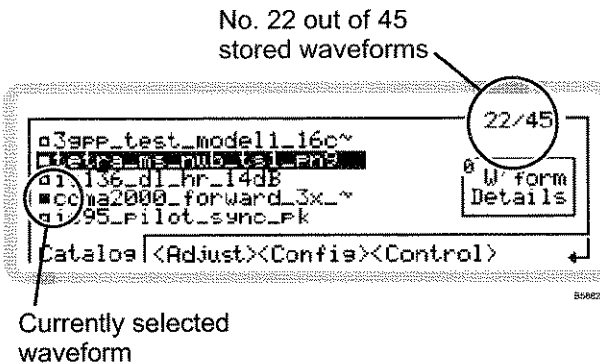
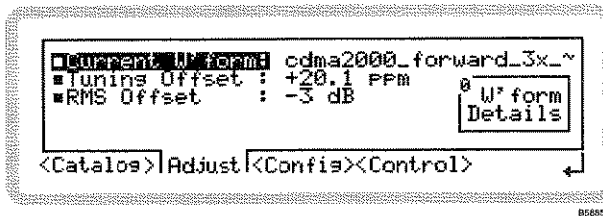
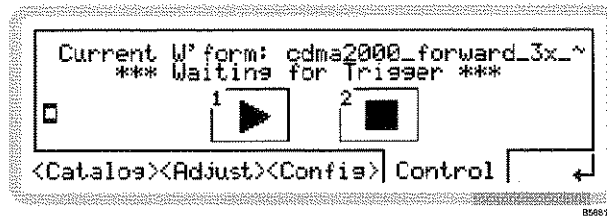

Fig. 3-29 ARB catalog
Fig. 3-30 ARB adjust
Fig. 3-32 ARB control
- 2 Press **SIG GEN** to show the main screen, and touch the **IQ** soft box to select the function. Touch **Wform** and press **↓** to view the ARB catalog menu (Fig. 3-29).
From the ARB catalog menu of Fig. 3-29, touch <Adjust> or press **<TAB>** to display the ARB adjust screen (Fig. 3-30).
From the ARB catalog menu of Fig. 3-29, touch <Config> or press <TAB> to display the ARB configuration screen (Fig. 3-31).
From the ARB catalog menu of Fig. 3-29, touch <Control> or press **<TAB>** to display the control screen (Fig. 3-32).